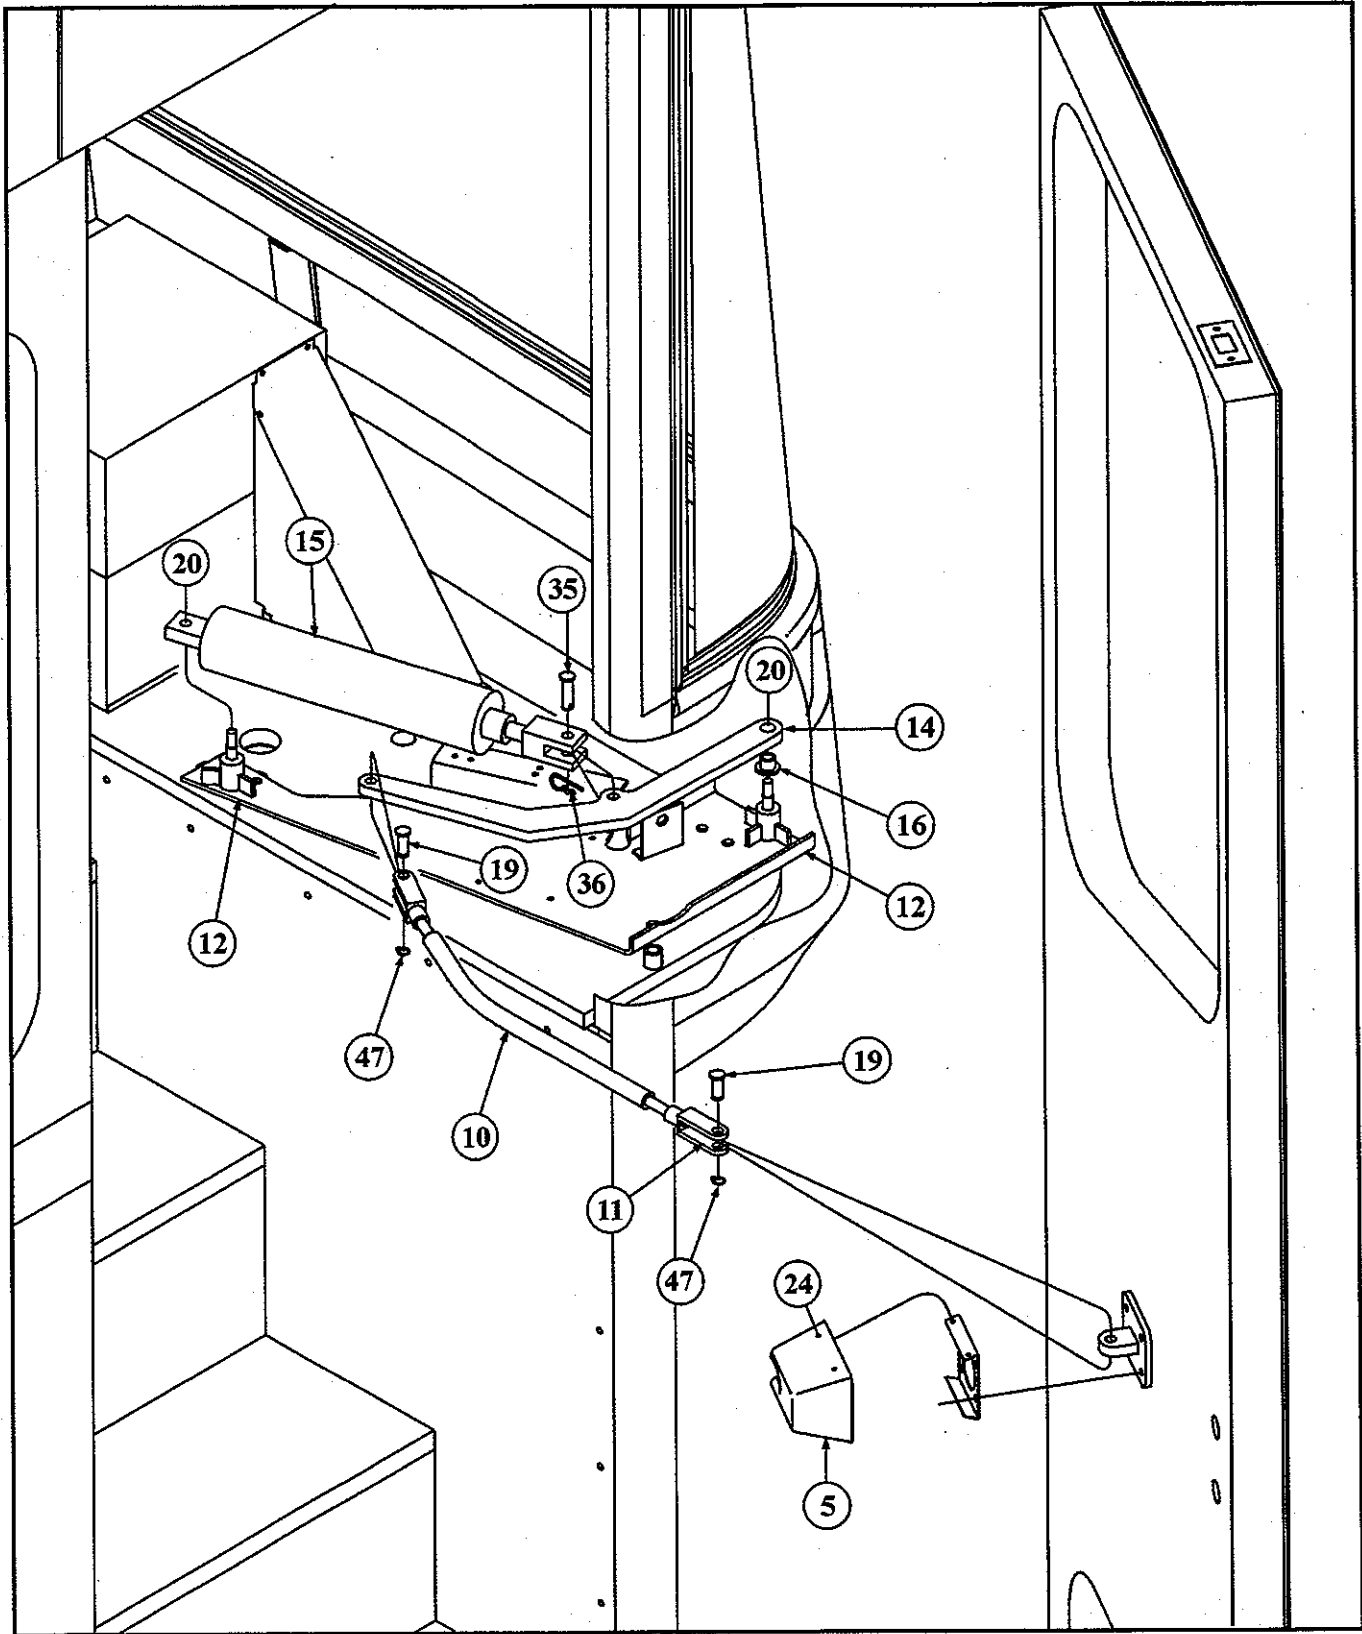

Figure 7—Door Control Assembly
1. Remove four screws (24) from entrance door link rod door cover (5). (See Figure 7—Door Control Assembly.)
2. Remove retaining ring (47) and clevis rod pin (19) from right door yoke end (11). (See Figure 7—Door Control Assembly.)
4. Remove retaining ring (47) and clevis rod pin (19) from entrance door pivot arm (14). (See Figure 7—Door Control Assembly.)
5. Remove retaining ring (47) and clevis pin (35) from Parker Air Cylinder (15).
6. Remove hex nut (20) from front door pivot arm mounting stud (12).
8. Remove hex nut (20) from the inside door pivot arm mounting stud (12).
9. Remove hex nut (20), entrance door pivot arm (14).
10. Remove entrance door pivot arm nylon bushing from the outside door pivot arm mounting stud (12). (See Figure 7—Door Control Assembly.)